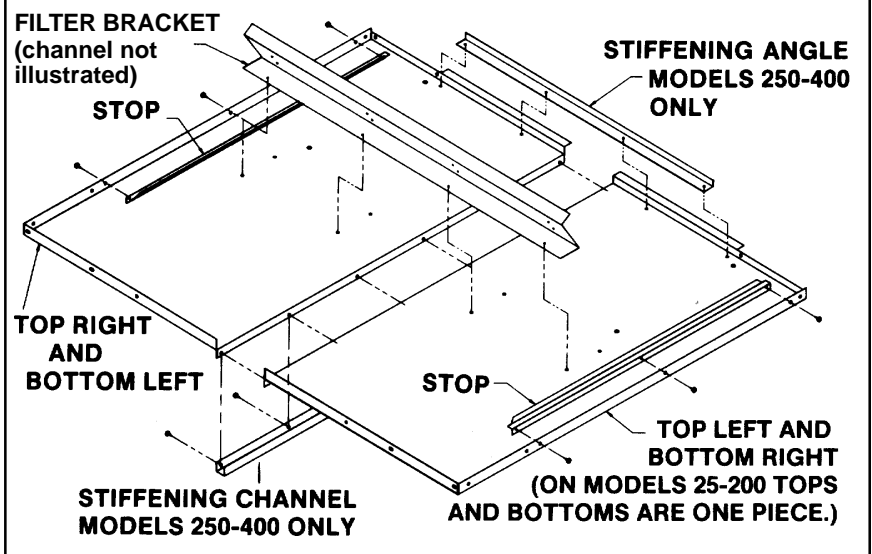

Figure 7 - Assemble Cabinet Top
7. Assemble the Cabinet Top (See Figure 7)